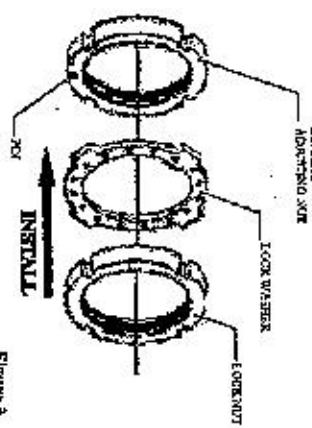

Figure 3
d) Install the Bearing Adjusting Nut (with pin) and torque to 35 Lb-Ft. Back off the Adjusting Nut 90 degrees and re-torque to 16 Lb-in. Install the Lock Washer against the Adjusting Nut. Be sure one of the holes in the Lock Washer line up with the pin on the Bearing Adjusting Nut. Install the outer Lock Nut and torque to 150 Lb-Ft (Figure 3).